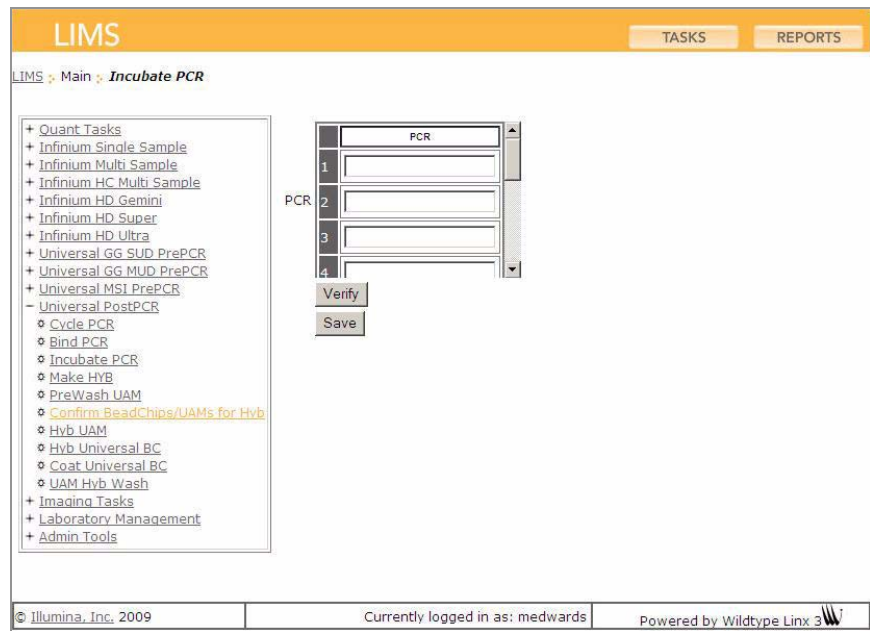

Figure 44 Illumina LIMS Incubate PCR
- a. Select **Universal PostPCR | Incubate PCR** (Figure 44).